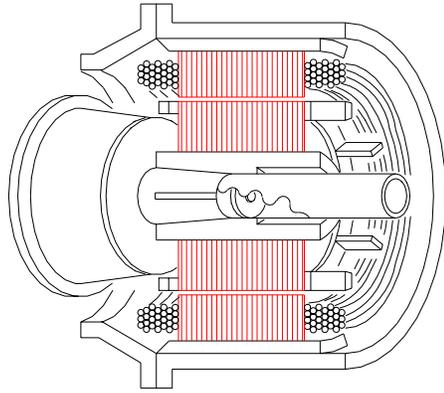

Fig. 40
- c) Remove the crankshaft key support plate and attach the motor rotor guide to the crankshaft (Fig. 40).